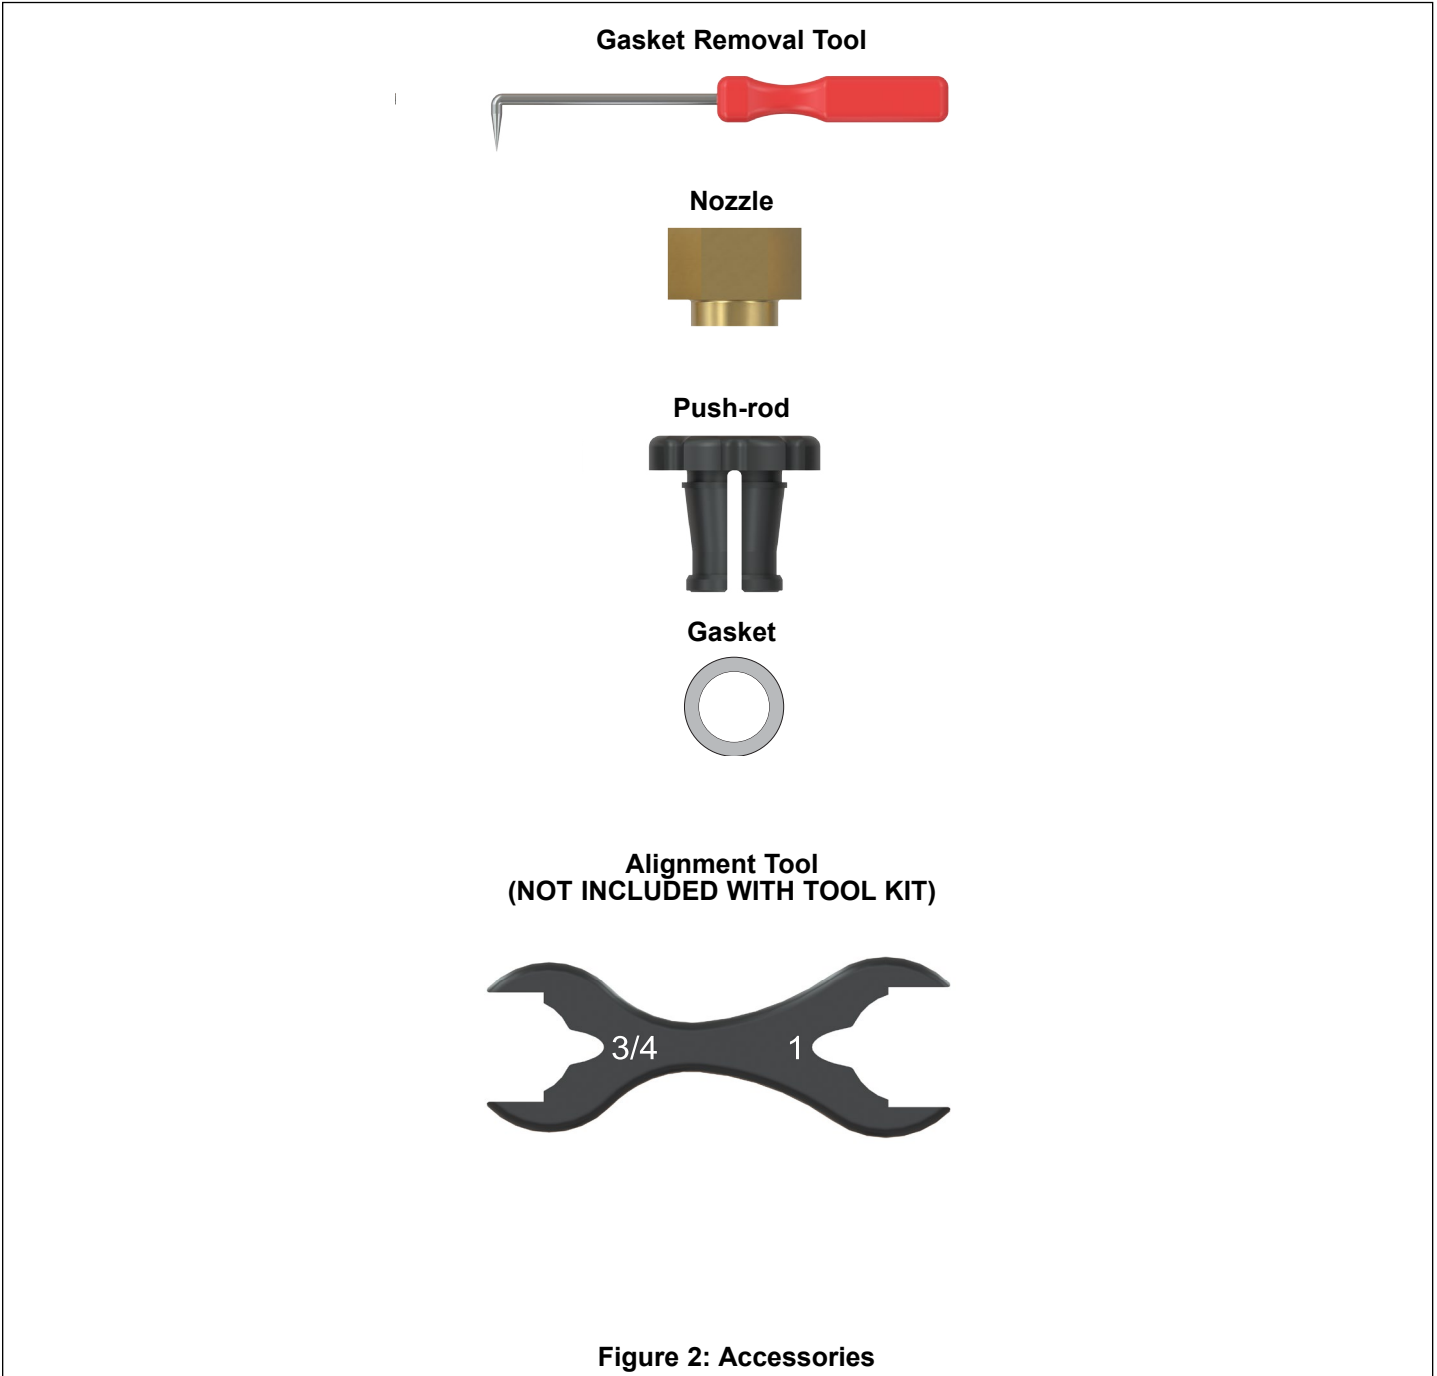

Figure 2: Accessories
Gasket and tool kit	26596 Refer to Figure 2. Kit Contents: <ul style="list-style-type: none"> • 1 Gasket removal tool • 1 Push-rod (used for installing gaskets) • 1 Nozzle (used for installing gaskets) • 6 Gaskets, 3/4"
Alignment tool	24838 For use with 3/4" and 1" sprinklers, refer to Figure 2. Fits ONLY ESFR sprinklers. *** Not included with kit 26596.***
Replacing the Gasket (see Figures 2 and 4)
3. Refer to Figure 2. Remove the gasket from the fitting using the gasket removal tool (or comparable tool).